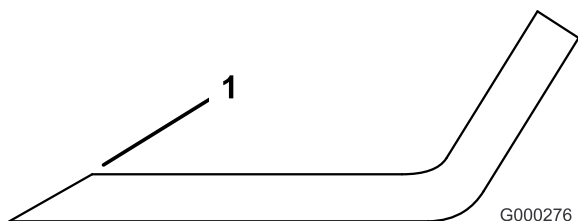

Figure 70
1. Sharpen the cutting edge at both ends of the blade (Figure 70). Maintain the original angle. The blade retains its balance if the same amount of material is removed from both cutting edges.